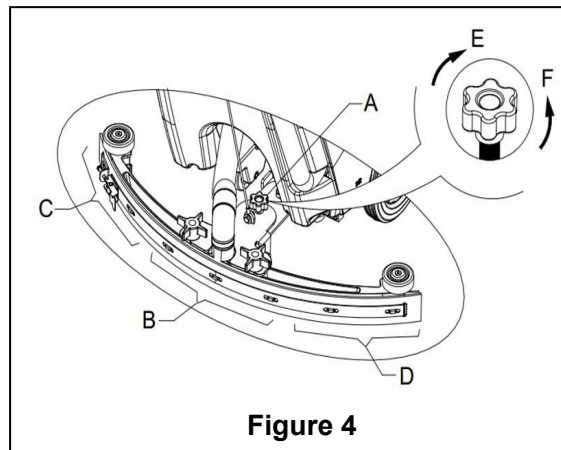

Figure 4
9. Install the squeegee and turn it tight with the handle (16). Then connect the vacuum tube (11) for waste to the squeegee.
10. Adjust the squeegee through the adjusting handle (A) of the squeegee (see **Figure 4**).